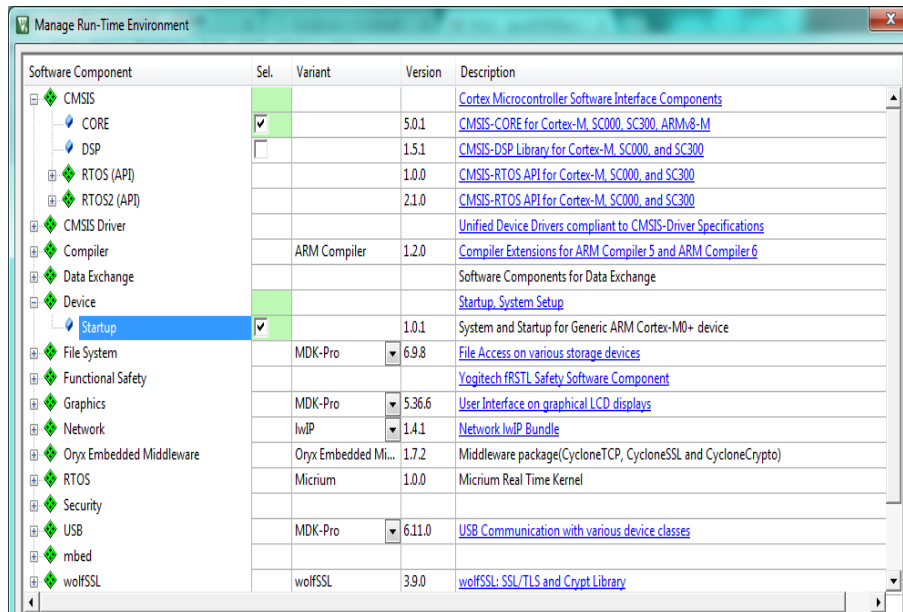

Figure 5: Software Components
- 5) Click the **Manage Run-Time Environment** symbol  and under **Software Component**, select the appropriate components and click **OK**, see Figure 5.